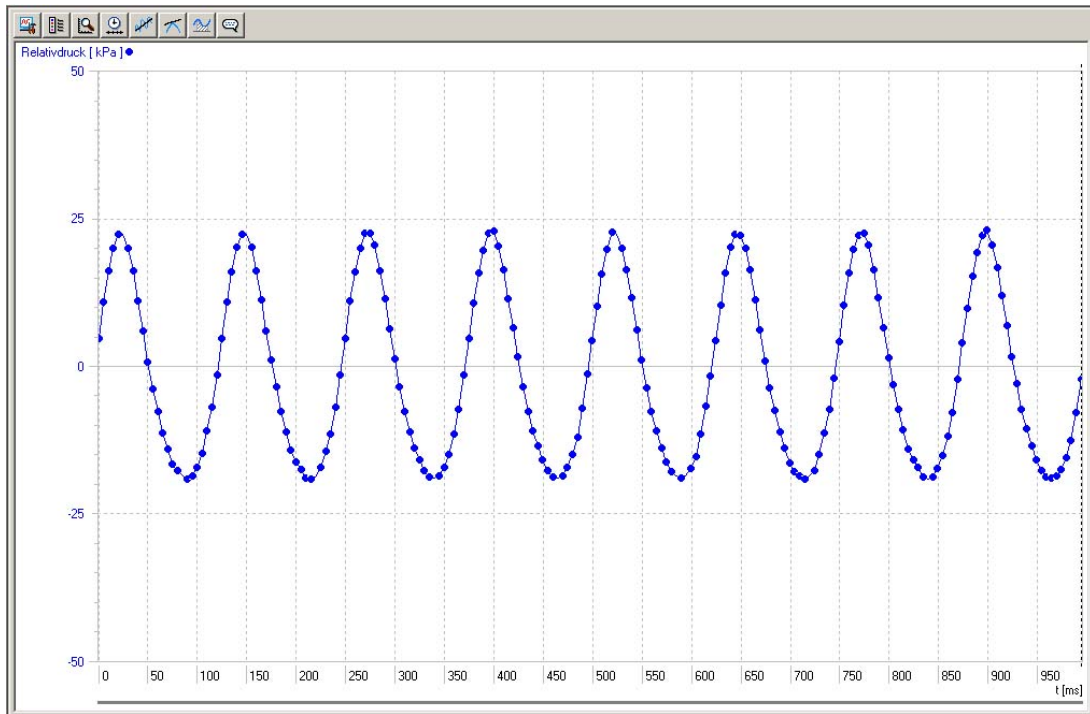

Fig. 2 Trace of pressure in Stirling engine U10050
- Evaluate the curve resulting from the measurements (fig. 2).